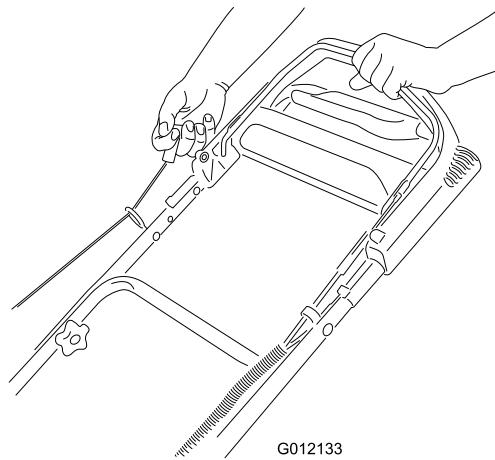

Figure 16
2. Pull the recoil-start handle (Figure 16) lightly until you feel resistance, then pull it sharply, and allow it to return to the rope guide on the handle slowly.